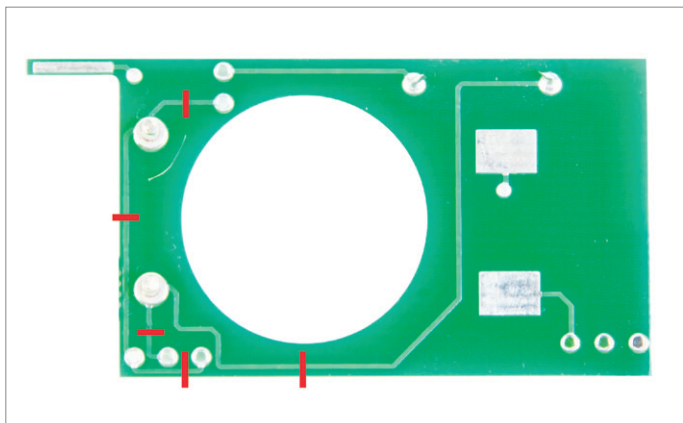

Fig. 27: Cutting strip conductors on the universal PCB, soldered batteries
- ▶ Using a modeller's knife cut, on the upper side of the universal PCB, five of the strip conductors in accordance with Fig. 27.